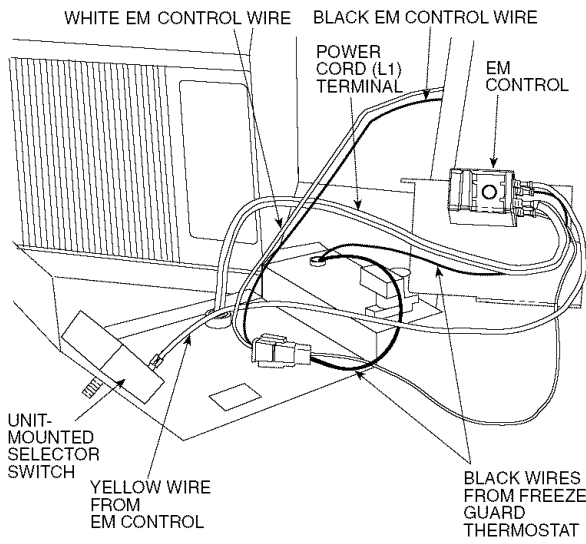

Fig. 6 — EM Control Wiring to Unit
NOTE: For ease of installation, connect all wiring to EM control before mounting EM control to bottom of control box. See Fig. 6.
Step 6 — Remove the L1 power cord wire from the selector switch and connect it to unused terminal 1 on EM control relay. Note the original connection and location of L1 for the next step. See Fig. 6 and 7.
Step 9 — Connect Freeze Guard black wire with 1/4-in. quick connect to unused terminal B on EM control relay. See Fig. 6.
Step 10 — Connect the other Freeze Guard black wire with the pin terminal into open position in plastic two-circuit connector. See Fig. 6 and 9.